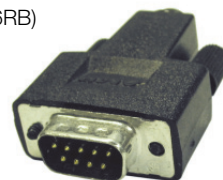

Figure 6. Fieldbus Baseplate Terminator
- ▶ The Fieldbus Baseplate Terminator (P0916RB) is used to terminate either the CP end of the HDLC fieldbus or the last 200 Series baseplate in the daisy chain when Time Strobe or split A/B fieldbus cables are not required. (See Figure 6.)